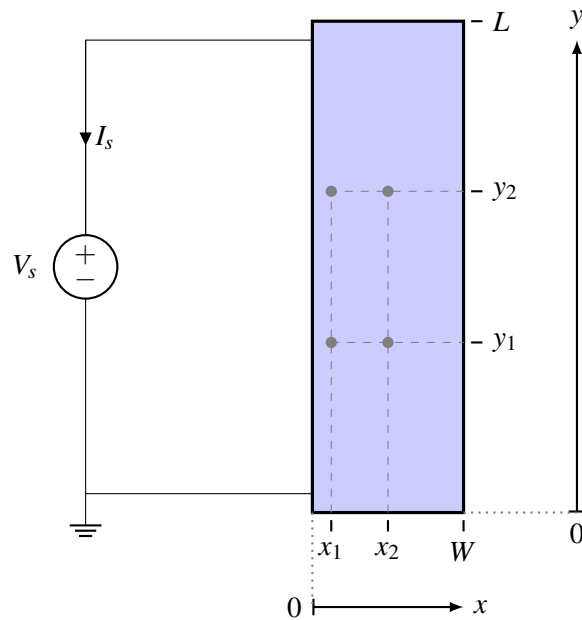
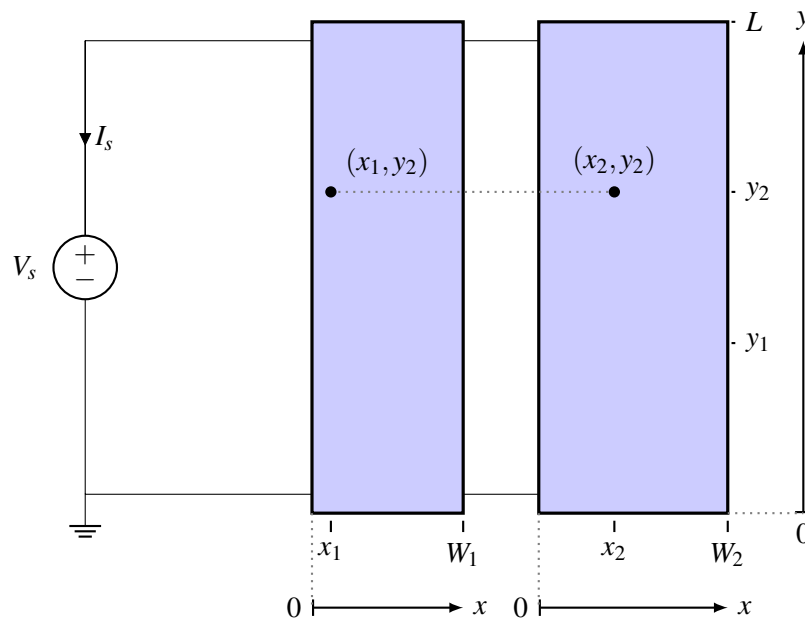

Figure 2: Top view of resistive touchscreen (not to scale).  $z$  axis i.e. the thickness not shown (into the page).
Figure 5: Top view of two touchscreens wired in parallel (not to scale).  $z$  axis not shown (into the page).
Figure 2 shows the top view of a resistive touchscreen consisting of a conductive layer with resistivity  $\rho_1$ , thickness  $t$ , width  $W$ , and length  $L$ . At the top and bottom it is connected through perfect conductors ( $\rho = 0$ ) to the rest of the circuit. The touchscreen is wired to voltage source  $V_s$ .
- (a) Draw a circuit diagram representing Figure 2, where the entire touchscreen is represented as *a single resistor*. **Note that no touch is occurring in this scenario.** Remember that circuit diagrams in general consist of only circuit elements (resistors, sources, etc) represented by symbols, connecting wires, and the reference/ground symbol. Calculate the value of current  $I_S$  based on the circuit diagram you drew. Do not forget to specify the correct unit as always.
- (f) Figure 5 shows a new arrangement with two touchscreens. The two touchscreens are next to each other and are connected to the voltage source in the same way. The second touchscreen (the one on the right) is identical to the one shown in Figure 2, except for different width,  $W_2$ , and resistivity,  $\rho_2$ .
Draw a circuit diagram representing Figure 5, where the two touchscreens are represented as *two separate resistors*. **Note that no touch is occurring in this scenario.**
- (h) Consider the two points:  $(x_1, y_2)$  in the touchscreen on the left, and  $(x_2, y_2)$  in the touchscreen on the right in Figure 5. Show that the node voltage at  $(x_1, y_2)$  is the same that at  $(x_2, y_2)$ , i.e. the potential difference between the two points is 0. You can show this without explicitly calculating the node voltages at the two points.